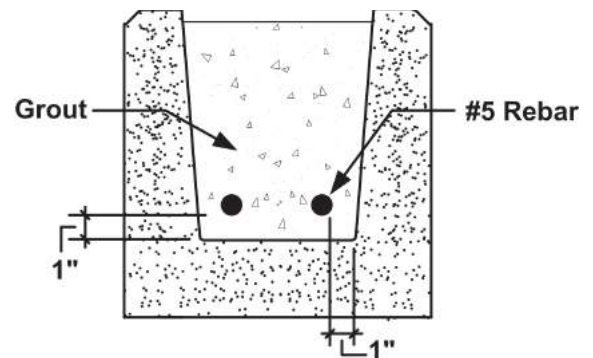

Fig. 4.30
6. Carefully place the rebar into the bond beam about one inch away from the face shell. It is important to ensure that the rebar is close to the tension side of the lintel (bottom) while having at least one inch of grout separating it from the bottom and side of the face shells (*Fig 4.30*).